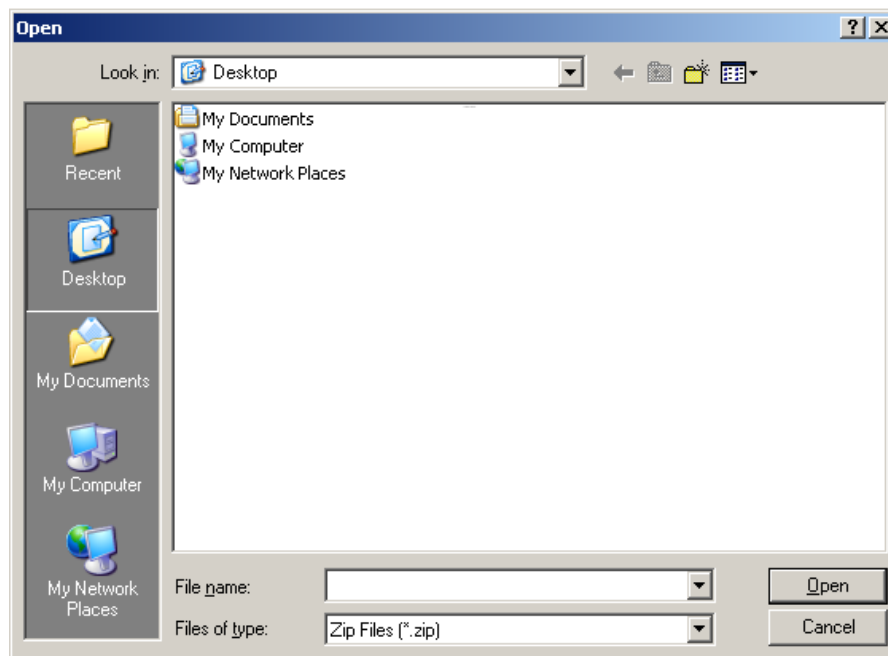

Figure 13
- 2bi: Browse to the location the file is saved at and click on Open (see Figure 13)